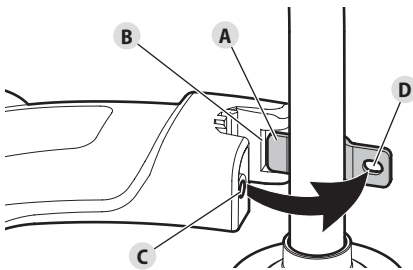

Fig. 1
2. Insert the short tab (the one without a hole) on the mount bracket (Fig. 1-A) into the slot on the cutting head shield (Fig. 1-B).
3. Rotate the cutting head shield counterclockwise to align the hole on the cutting head shield (Fig. 1-C) with the hole on the mount bracket (Fig. 1-D).